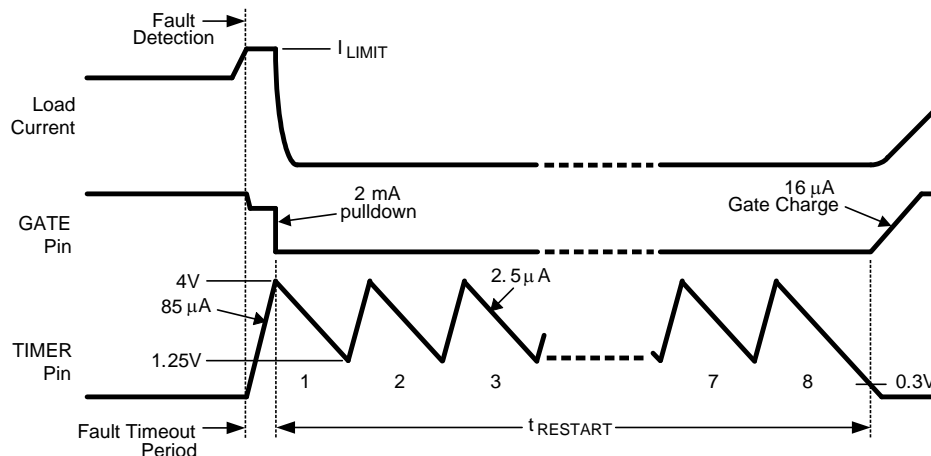

Figure 27. Restart Sequence (LM5069-2)
When the current limit or power limit threshold is reached during turn-on or as a result of a fault condition, the gate-to-source voltage of Q1 is modulated to regulate the load current and power dissipation. When either limiting function is activated, an 85 μA fault timer current source charges the external capacitor (C_T) at the TIMER pin as shown in Figure 27 (Fault Timeout Period). If the fault condition subsides during the Fault Timeout Period before the TIMER pin reaches 4.0V, the LM5069 returns to the normal operating mode and C_T is discharged by the 2.5 μA current sink. If the TIMER pin reaches 4.0V during the Fault Timeout Period, Q1 is switched off by a 2 mA pull-down current at the GATE pin. The subsequent restart procedure then depends on which version of the LM5069 is in use.
The LM5069-2 provides an automatic restart sequence which consists of the TIMER pin cycling between 4.0V and 1.25V seven times after the Fault Timeout Period, as shown in Figure 27. The period of each cycle is determined by the 85 μA charging current, and the 2.5 μA discharge current, and the value of the capacitor C_T . When the TIMER pin reaches 0.3V during the eighth high-to-low ramp, the 16 μA current source at the GATE pin turns on Q1. If the fault condition is still present, the Fault Timeout Period and the restart cycle repeat.
C) Restart Timing For the LM5069-2, after the Fault Timeout Period described above, C_T is discharged by the 2.5 μA current sink to 1.25V. The TIMER pin then cycles through seven additional charge/discharge cycles between 1.25V and 4.0V as shown in Figure 27. The restart time ends when the TIMER pin voltage reaches 0.3V during the final high-to-low ramp. The restart time, after the Fault Timeout Period, is equal to: